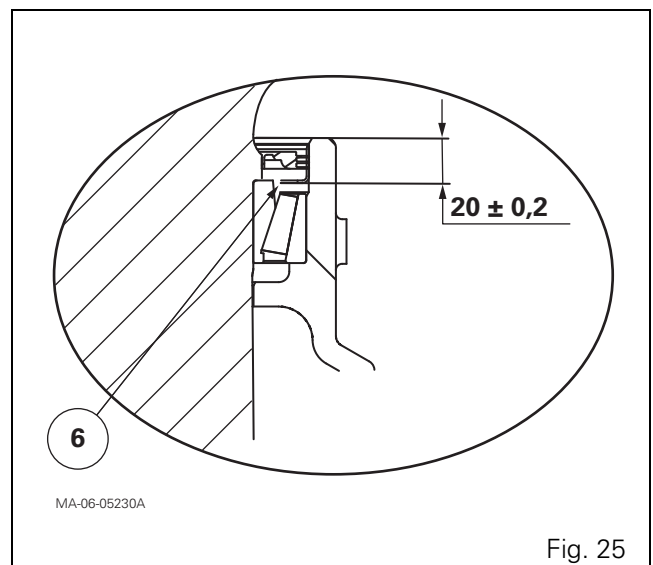

Fig. 25
- Fig. 25 (tractors fitted with GTA1540 transmission).